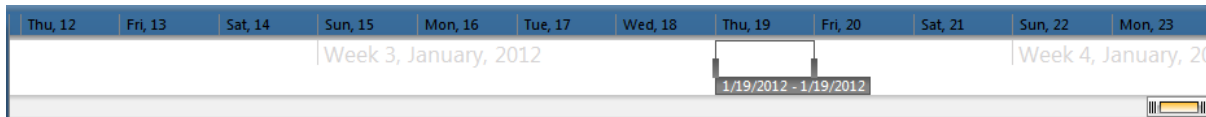

Figure 22 – Date/Time Selection
- **Specify the date range** - The time bar at the top of the screen shows a range of selectable dates. See figure 22.